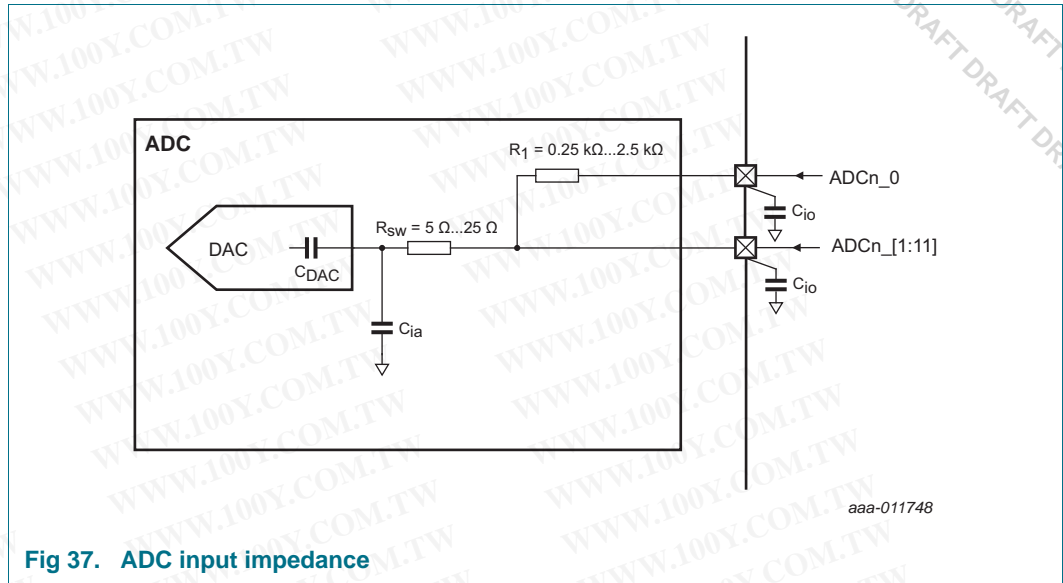

Fig 37. ADC input impedance
- [1] The input resistance of ADC channel 0 is higher than for all other channels. See Figure 37.